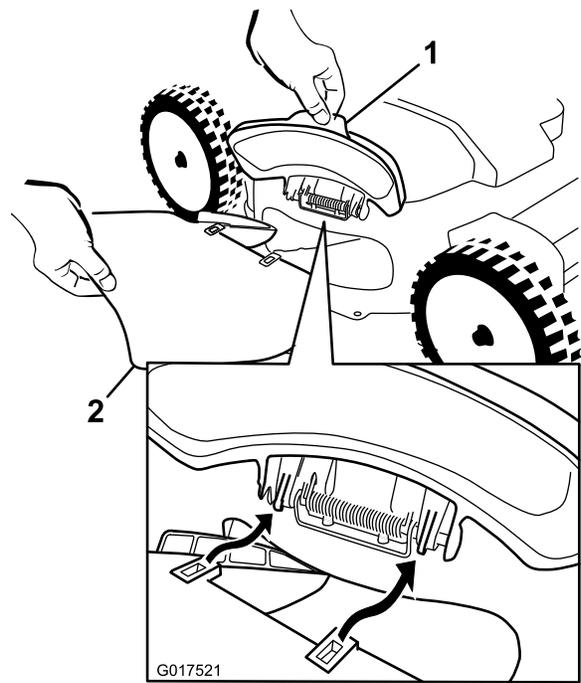

Figure 27
1. Lift open the side-discharge deflector (Figure 27).